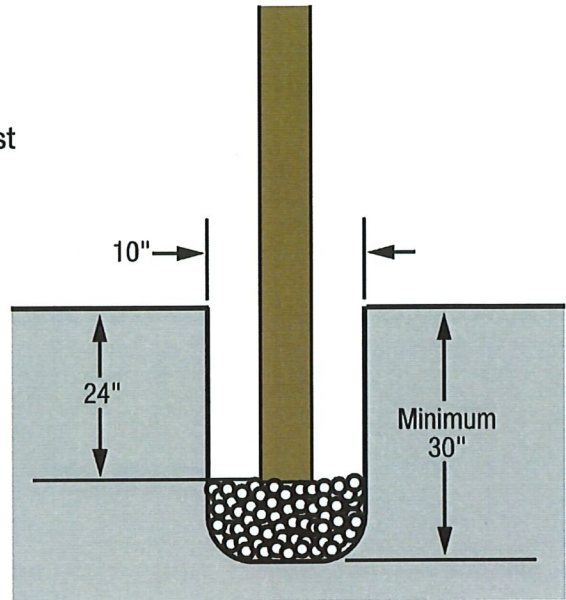

Fig 2. Setting Posts
1. Dig or auger post holes. The 4" x 5" Vinyl Posts require a **10" DIAMETER HOLE**, and must be at least **30" BELOW GRADE**. (See Fig 2.)